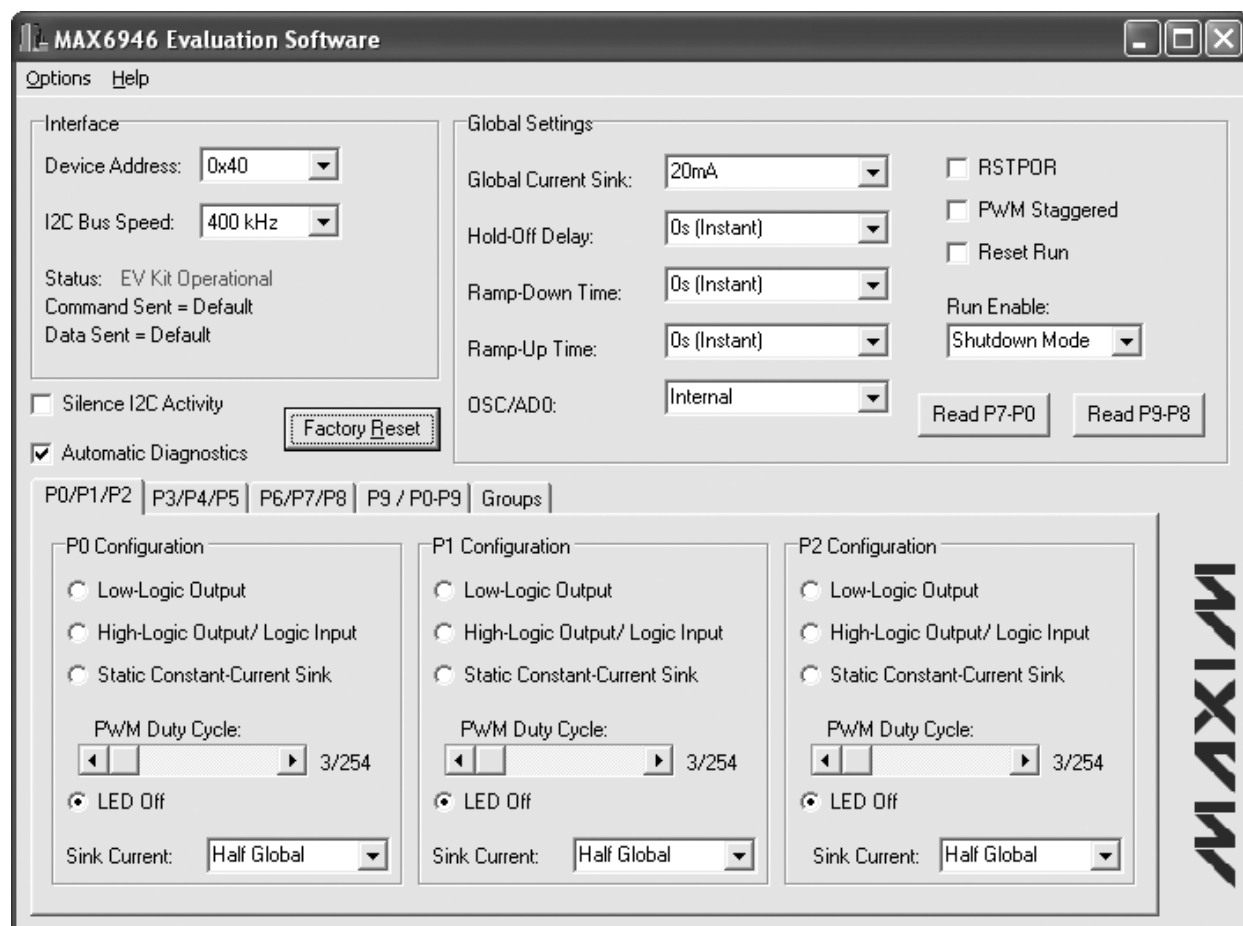

Figure 1. MAX6946 EV Kit Software Graphical User Interface (GUI)
- 11) Start the MAX6946 EV kit software by opening its icon in the **Start | Programs** menu. The application window shown in Figure 1 appears, and the software connects to the CMAXQUSB after a few seconds.
The user interface (shown in Figure 1) is simple to operate. Use the computer mouse buttons or press the Tab key to navigate through the GUI controls. The correct I²C write operation is generated to update the internal registers of the MAX6946 when any of these controls are used.
There are two methods for communicating with the MAX6946; through the normal user-interface panel (Figure 1) or by using low-level I²C commands available through the **2-wire interface** diagnostics (Figure